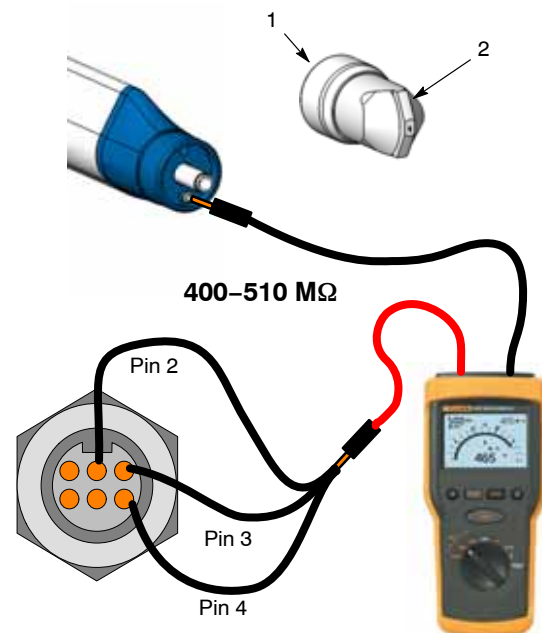

Figure 11 Multiplier/Resistor Test
1. See Figure 11. Remove the retaining nut (1) and nozzle (2).